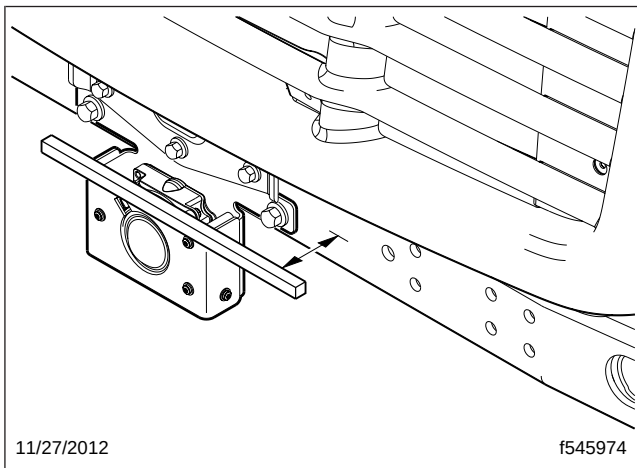

Fig. 3, Horizontal Alignment Using a Straight Edge
1. Center a 4- to 6-inch (1- to 2-meter) straight edge across a flat surface of the radar housing. See Fig. 3.